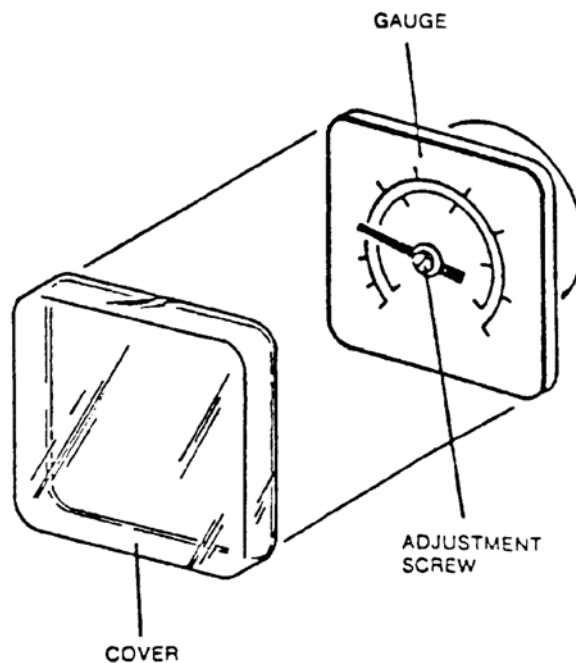

Figure 1-19. Chamber pressure gauge.
(4) Assemble the glass dial in the rim and place the rim in position against the gauge case.
(5) Turn the rim counterclockwise until you feel the threads drop into alignment. Then screw the rim clockwise into the gauge case.
d. **Adjust the Chamber Pressure Gauge.** Adjust the chamber pressure gauge when the chamber is at atmospheric pressure. The gauge is located at the right of the control head. Refer to figure 1-19.